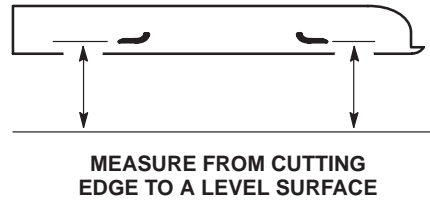

Figure 23
2. Measure from a level surface to the cutting edge of the blades (Fig. 23). Note this dimension.